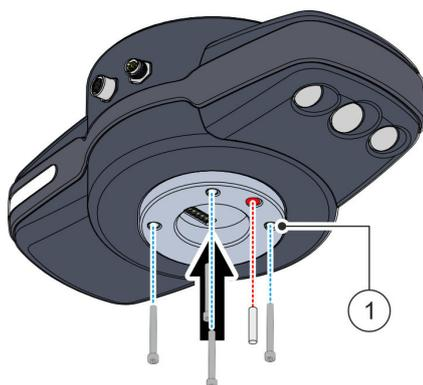

Fig. 62 Screwing the tool on tight
04. Attach the tool to the holes Fig. 62 / ① in the connecting flange with an optional dowel pin and four M6 bolts.